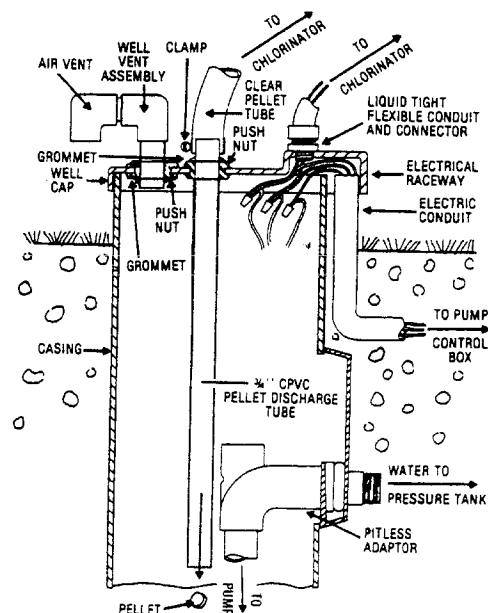

Figure 4
Figure 4 illustrates a typical non-sealed well casing and the modifications required to assure that a) the pitless adapter does not prevent the pellets from dropping into the water; and b) adequate well venting is provided.
4. Drill a 1-1/4 inch (3.2 cm) diameter hole in the well cover corresponding to the location of the pellet discharge tube to be installed (Figure 4). Drill a second 1-1/4 inch (3.2 cm) diameter hole in the well cover for the well vent assembly shipped with the Land-O-Matic.
10. Install the clear plastic pellet tube supplied with the LAND-O-MATIC Chlorinator (Figure 4). Shorten the tube as necessary so there are no kinks or obstructions to interfere with the falling of the chlorine pellets. Install hose clamps at both ends of the clear plastic tube.